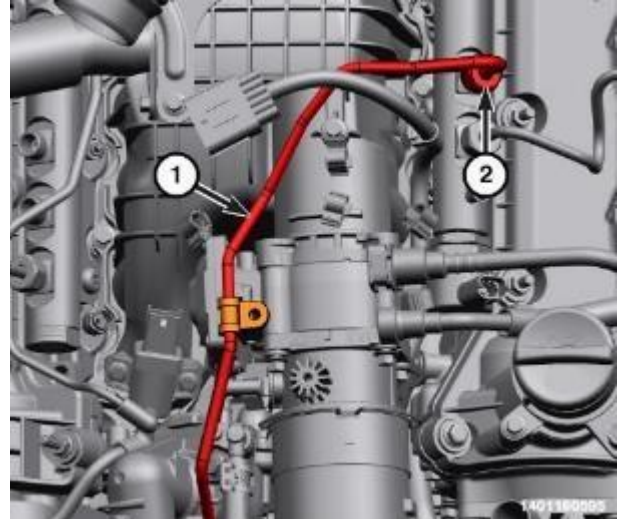

Figure 66 – Fuel Tube
- 116. Install the **NEW** left high pressure fuel tube (1) and tighten the rail union nut (2) finger tight (Figure 66).